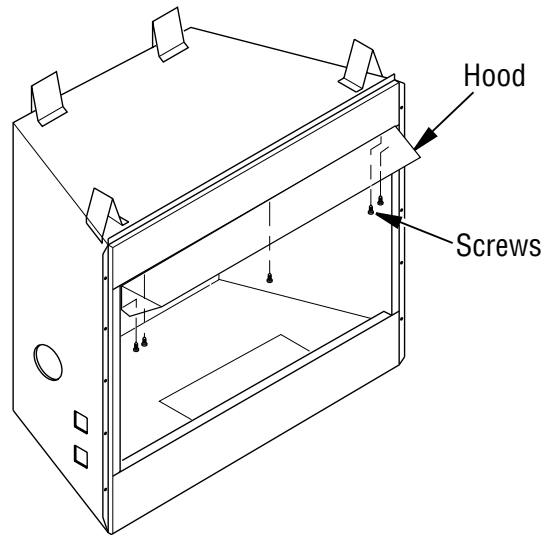

Figure 18 - Screw and Hood Placement (Model May Vary From Illustration)
1. Attach hood to firebox using screws provided (see *Figure 18*).